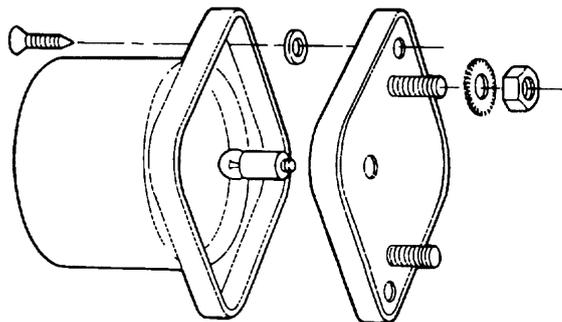

Figure 188 Convoy Light Exploded View
- b. Remove the lens and the sealing-washers (Figure 188).